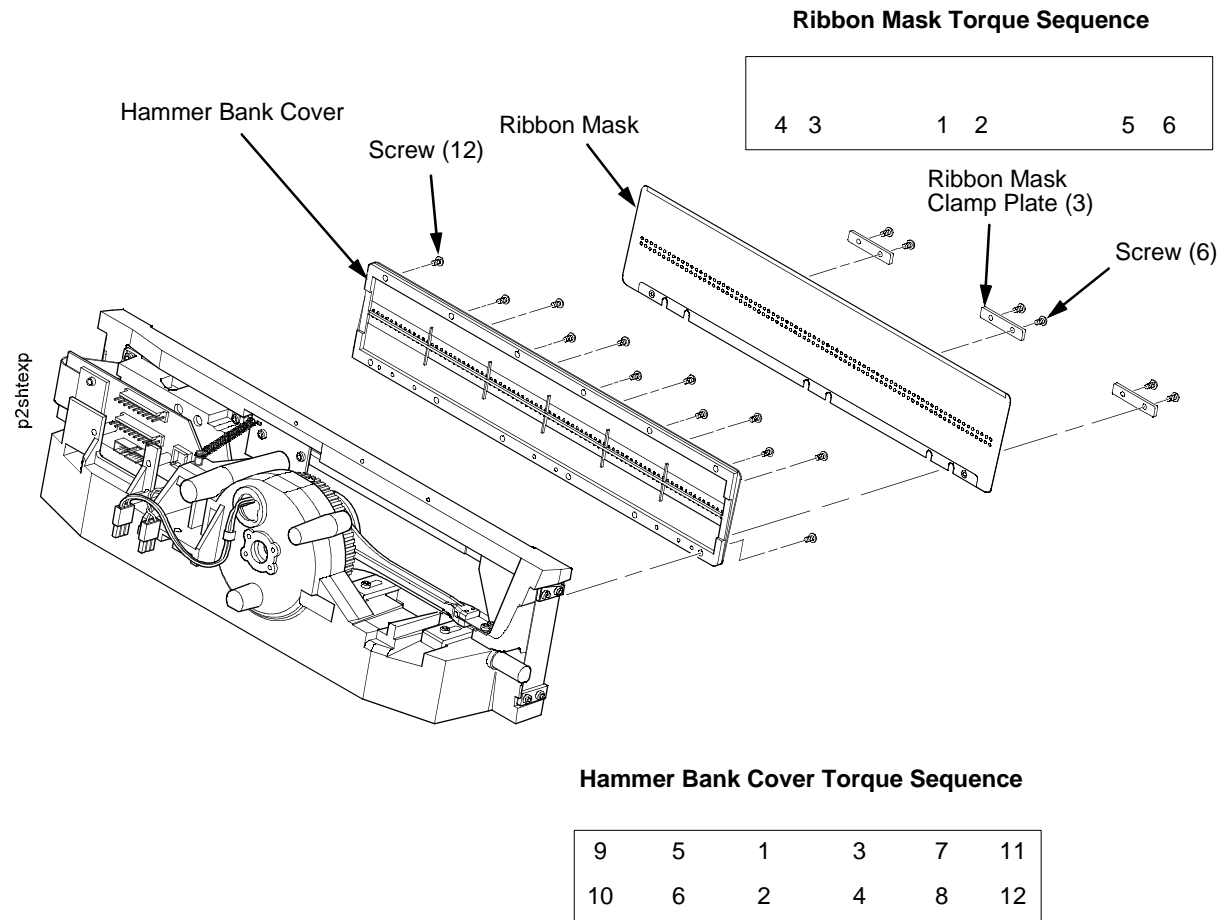

Figure 17. This figure shows how to install the hammer bank cover assembly and the ribbon mask on dual hammer bank printers.
- a. Using a Torx T-10 driver, remove the six screws and three ribbon mask clamp plates securing the ribbon mask to the hammer bank cover. Remove the ribbon mask. (See Figure 17, page 356.)
- b. Using a Torx T-10 driver, remove the 12 screws securing the hammer bank cover to the hammer bank. Remove the hammer bank cover. (See Figure 17, page 356.)
- b. Install all 12 hold-down screws finger tight. Using a Torx T-10 driver, torque the 12 hold-screws to 14 inch-pounds (1.58 N•m) in the sequence shown in Figure 17 on page 356.
- c. With the seam of the folded lower edge of the ribbon mask facing inward (toward the hammer bank cover), position the ribbon mask on the alignment pins on the hammer bank cover. The ribbon mask is correctly installed when the angled ends of the ribbon mask match the angled ends of the hammer bank cover. Install the three clamp plates and six screws finger tight. Using a Torx T-10 driver, torque the six screws to 14 inch-pounds (1.58 N•m) in the sequence shown in Figure 17 on page 356.